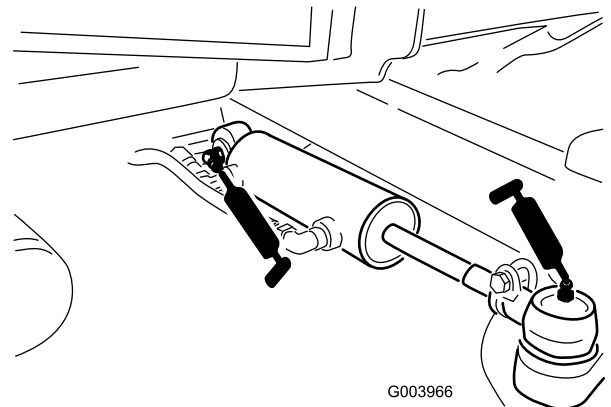

Figure 53
- Steering-cylinder ball joints (2) (Figure 53)